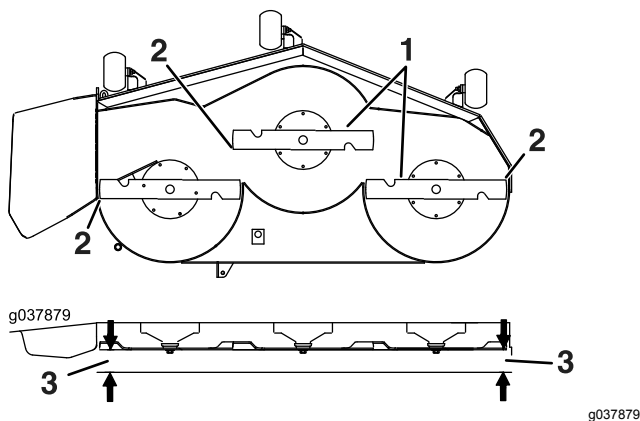

Figure 119
6. Measure between the blade tip and the flat surface (Figure 119). If both measurements are not within 5 mm (3/16 inch), adjust the leveling; continue with this procedure.
- 13. Carefully rotate the blades side to side (Figure 119).